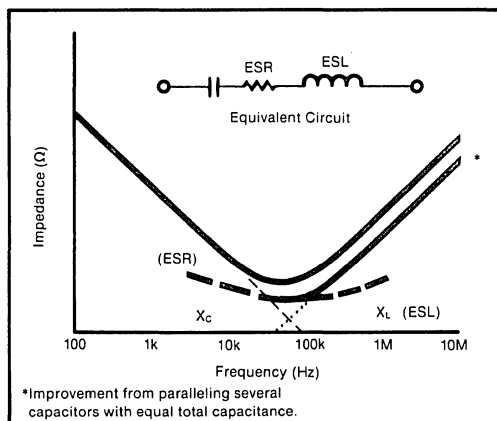

FIGURE 3. Typical Log/Log Impedance Plot for Aluminum Electrolytic Capacitor.
The saying "the more the better" is definitely not applicable to output capacitors of switching type power supplies. The basic design equations of the supply rules out any brute force approach. The parameter of major concern is the Effective Series Resistance (ESR). ESR is due to stray resistance inside the electrolytic capacitor that becomes significant at switching power supply frequencies and higher. Together with Effective Series Inductance (ESL), ESR can be modeled as the equivalent circuit shown in Figure 3.
Where DF is given in %, f is given in hertz, and C is given in farads. Dissipation factor (DF) is a function of frequency and is useless if given at less than 1kHz. (If given at lower frequencies it is more indicative of equivalent parallel resistance). If given at 1kHz or greater, the above equation applies. Typical values are 8% to 24% at 1kHz for solid tantalums, and 0.1% to 3% at 1kHz for ceramics, and 8% at 120Hz for aluminum electrolytics. Most tantalum and aluminum electrolytic capacitor manufacturers do not specify the ESR, probably because it is not worth bragging about. One way of reducing ESR in design is to put two or more capacitors in parallel that add to the needed capacitance and reduce the ESR by the parallel resistance relation (see note in Figure 3). The second capacitor may be 1/10 or 1/100 the capacitance of the first, since it will provide bypassing for higher frequencies.